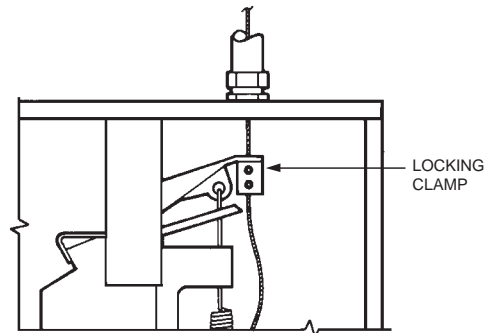

FIGURE 10
3. Starting at the release assembly, feed the wire rope through the hole in the release mechanism locking clamp, allowing the excess wire rope to hang down. (Do not tighten set screws in locking clamp at this time.) See Figure 10.